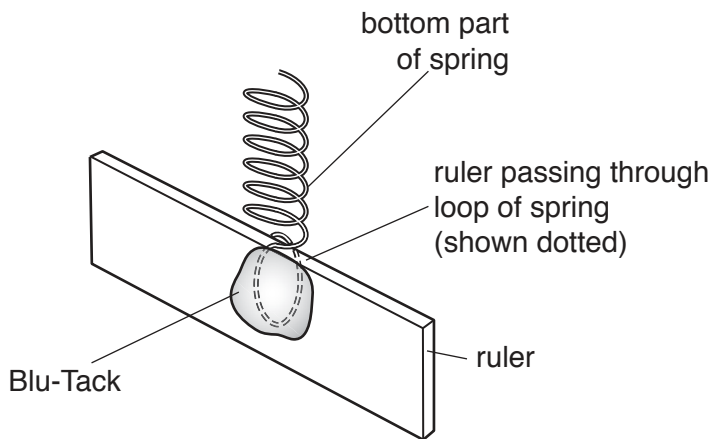
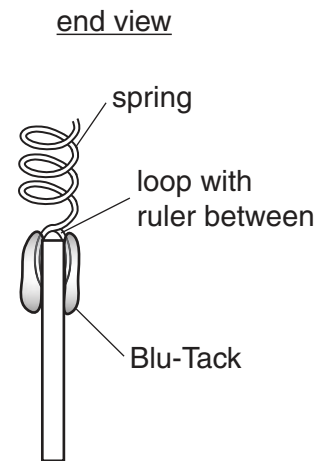

Fig. 2.1
Fig. 2.2
- The Supervisor should use the two pieces of Blu-Tack, one each side of the ruler, to secure the loop at one end of the spring to the centre of the ruler. The centre of the loop should be in the centre of the ruler. This is shown in Fig. 2.1 and Fig. 2.2.